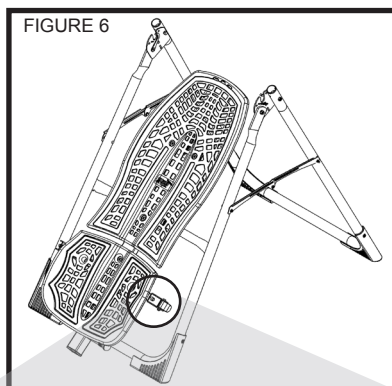

FIGURE 6
- For ease of assembly, rest the Table Bed against the Crossbar (Figure 6) at the front of the A-Frame.